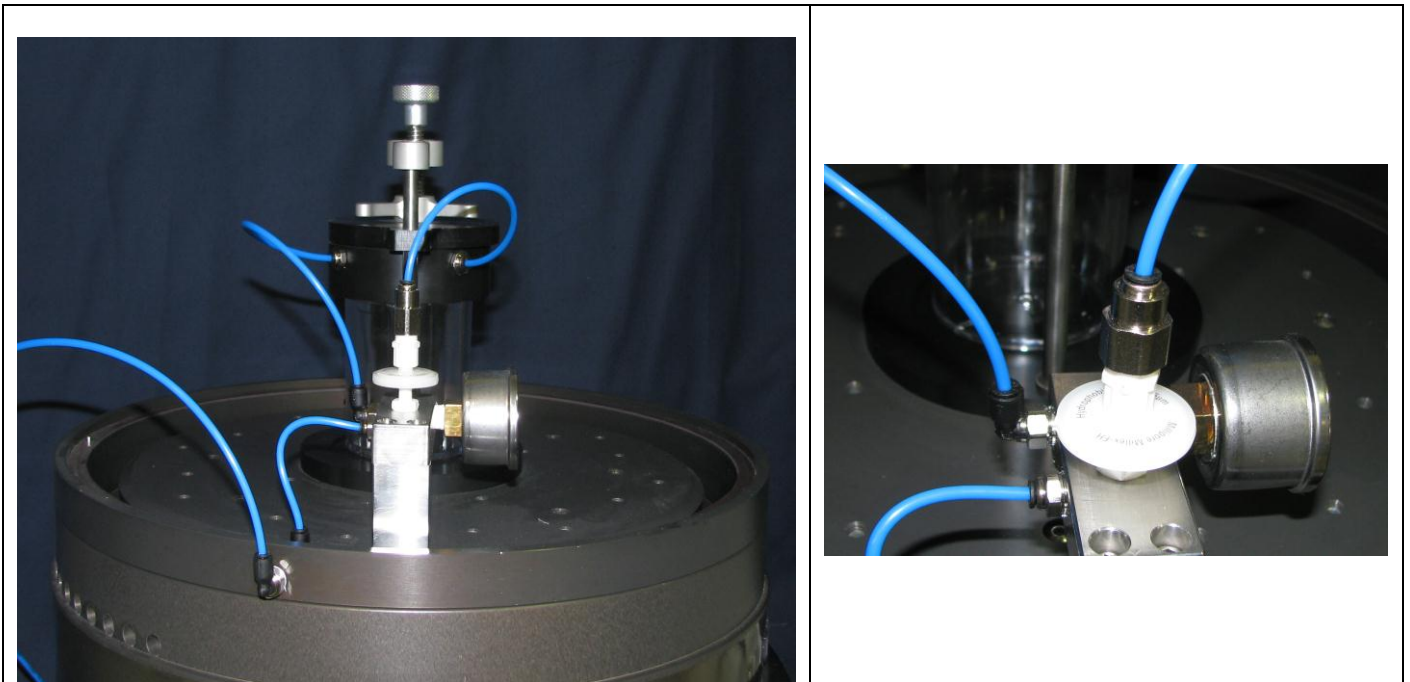

Figure 14. Connection of 1/8" poly tubing to gauge and vacuum lid
- 9.3.5 Connect 1/8" poly tubing from LabRAM to gauge to the vacuum lid and back to the filter on the gauge. See Figure 14.**